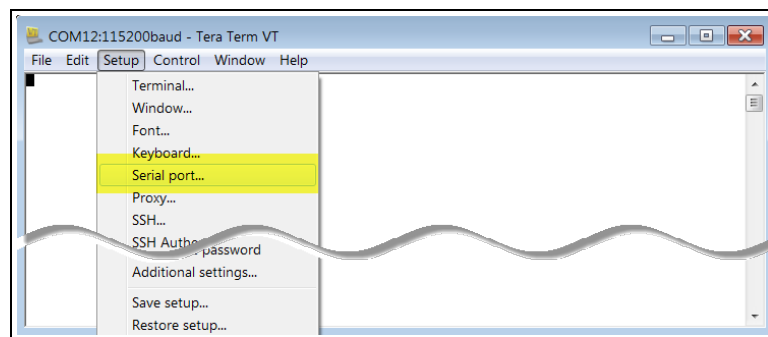

Figure 21: Setup menu > Serial Port
7. In the **Tera Term** window, click the **Setup** menu and select **Serial Port**. Figure 21